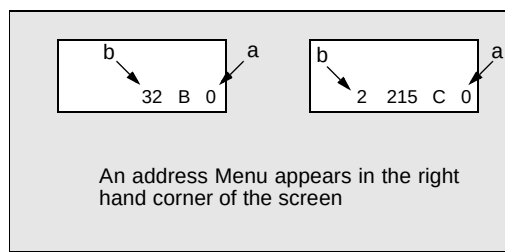

Figure 27. Serviceman Mode Menu Adjustments.
**Note:** Only the applicable settings for the Receiver serviced will be available (See a in Fig. 27).
1. Press **Channel Up/Down** on the **Remote Control** to select one of the available Service Adjustments (a in Fig. 27).
*Note: Write Down the original value set (b in Fig. 27) for each address before modifying anything. It is easy to erroneously adjust the wrong item.*
2. Press **Volume Up/Down** on the **Remote Control** to adjust the level of the selected Service Adjustment (b in Fig. 27).
1. Press Channel Up/Down on the Remote Control to select one of the available Service Adjustments (a in Fig. 27).
**Note:** Write Down the original value set (b in Fig. 27) for each address before modifying anything. It is easy to erroneously adjust the wrong item.
2. Press Volume Up/Down on the Remote Control to adjust the level of the selected Service Adjustment (b in Fig. 27).
1. Press **Channel Up/Down** on the **Remote Control** to select one of the available Service Adjustments (**a** in Fig. 27).
**Note:** Write Down the original value set (**b** in Fig. 27) for each address before modifying anything. It is easy to erroneously adjust the wrong item.
2. Press **Volume Up/Down** on the **Remote Control** to adjust the level of the selected Service Adjustment (**b** in Fig. 27).